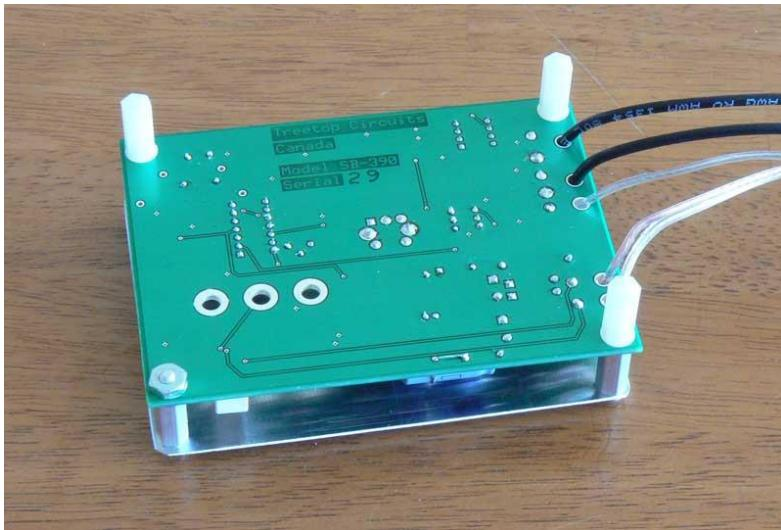

Fig. 4A: Standoffs on underside
2. Open Bag 2. Loosely assemble the standoffs and associated hardware as shown in *Fig. 4A* and *Fig. 4B*. Use one lockwasher under the nut, and one under each white standoff. The white standoffs (*Fig. 4A*) provide support in case excessive pressure is applied to the adapter. Standoff The aluminum standoffs support the cover plate.